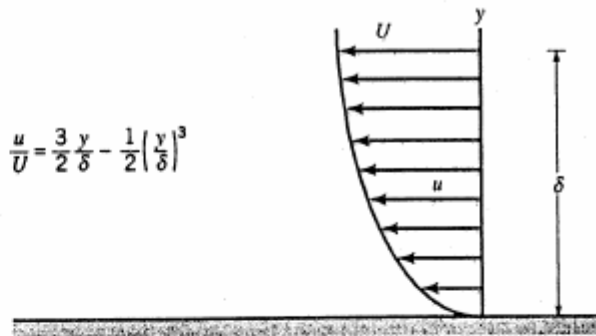

FIGURE P1.58
1.58 A Newtonian fluid having a specific gravity of 0.92 and a kinematic viscosity of $4 \times 10^{-4} \text{ m}^2/\text{s}$ flows past a fixed surface. Due to the no-slip condition, the velocity at the fixed surface is zero (as shown in Video V1.2), and the velocity profile near the surface is shown in Fig. P1.58. Determine the magnitude and direction of the shearing stress developed on the plate. Express your answer in terms of U and δ , with U and δ expressed in units of meters per second and meters, respectively.